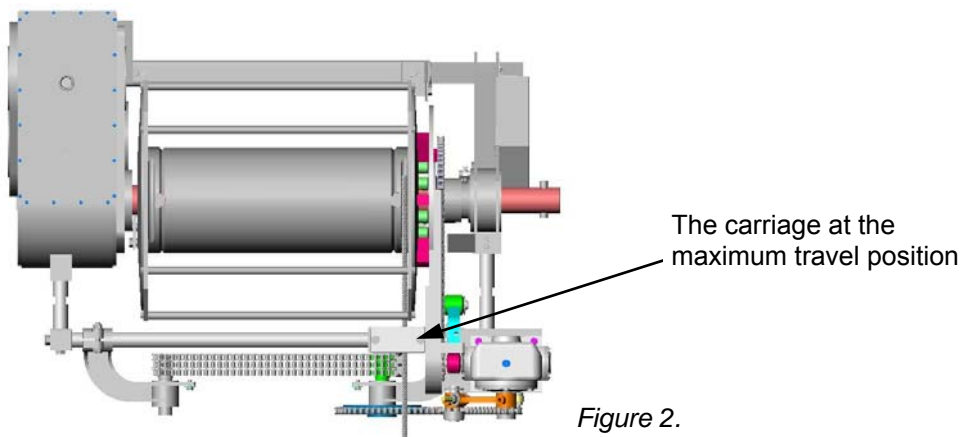

Figure 2.
The timing of the level wind must be set properly when placing rope onto the drum. Set the timing of the level wind by rotating the drum until the carriage reaches a position of maximum travel at the drum end where the rope is to be attached. The extreme end of the carriage travel is when the guide link is on the outside of the end sprocket and at the mid-point of the vertical slot in the carriage. Thread the end of the rope through the roller cage and attach it to the drum by means of the rope clamp. See figure 2. Drive the winch forward at a low speed, keeping sufficient tension on the rope. It is extremely important that the first lay of rope be straight and compact. Slowly increase the drum speed and spool on the remaining rope.
16. Thread the end of the rope through the roller cage and attach it to the drum by means of the rope clamp. See *figure 2*.